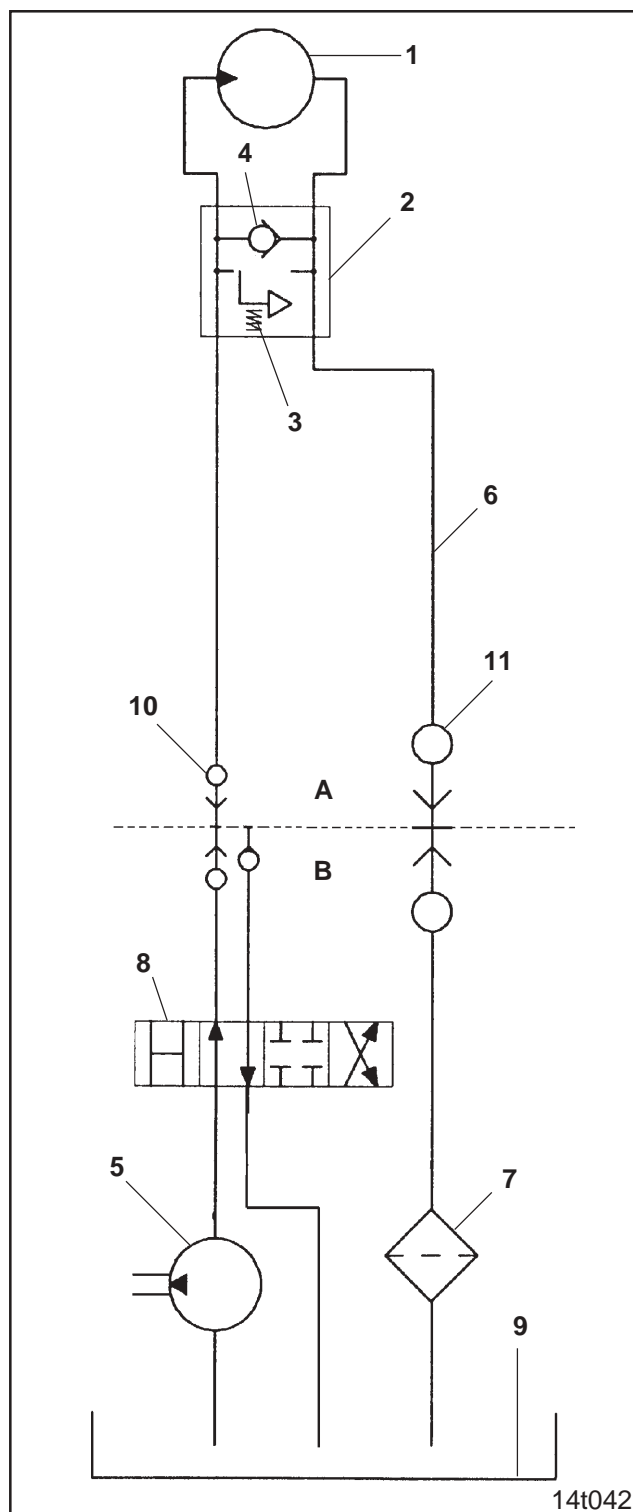
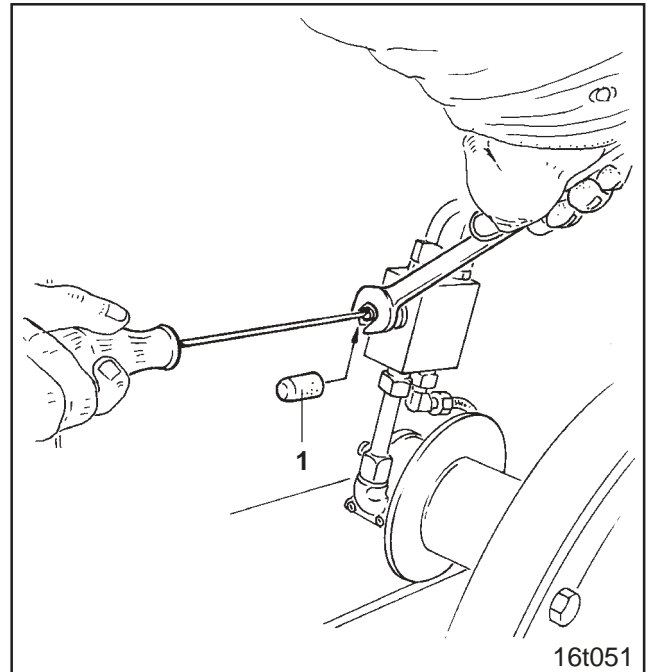

Fig. 7.2
Fig. 7.3
To drive the blower fan with a hydrostatic motor (Fig. 7.2/1) it has to be connected to the tractor's hydraulics according to the circuit diagram (chapter 7.2).
Set the blower fan speed at the pressure limiting valve (Fig. 7.3 or Fig. 7.2/3) or at the current regulating valve of the tractor (see below).
For setting the blower fan speed at the pressure limiting valve (Fig. 7.3 or Fig. 7.2/3):
- remove dust cap (Fig. 7.3/1)
After setting, secure valve with counter nut and cover with dust cap (Fig. 7.3/1).
On tractors with controllable hydraulic pump the necessary oil volume should be set at the current regulating valve and the pressure limiting valve (Fig. 7.2/3) should be set in such a way that the oil volume is as little as possible. Larger oil volumes than necessary are led back into the oil tank by the pressure limiting valve and result in unnecessary heating up of the hydraulic oil.
No	Description (please refer to Fig. 7.2)
On the pressure side the blower fan hydraustatic motor (Fig. 7.2/1) may be connected to either a single or to a double acting control valve (Fig. 7.2/8).
In order not to damage the hydraustatic motor, the oil pressure in the return flow (Fig. 7.2/6) must not exceed 10 bar. Therefore, never connect the return flow to the control valve (Fig. 7.2/8) but to a pressure-less return flow with a large plug coupling (Fig. 7.2/11)! Should it become necessary to install a new return flow tubing, use only tubes DN16, z.B. Ø20 x 2,0 mm and short return flow ways.
The hydraulic oil must be guided through an oil filter (Fig. 7.2/7) at any place of choice.
The check valve (Fig. 7.2/4) allows the blower fan to run after as soon as the control valve (Fig. 7.2/8) has been shut off.
If large amounts of oil are fed into small oil tanks, the hydraulic oil will heat up. The capacity of the oil tank (Fig. 7.2/9) should at least have the double of the oil delivery amount. If the oil heats up too much, the installation of an oil cooler on the tractor by a professional workshop is necessary.
Particles of dirt may damage the blower fan hydrostatic motor (Fig. 7.2/1) and the pressure limiting valve (Fig. 7.2/3). For this reason, always keep clean the coupling parts when connecting the blower fan hydrostatic motor to the tractor's hydraulic to avoid the hydraulic oil becoming dirty.